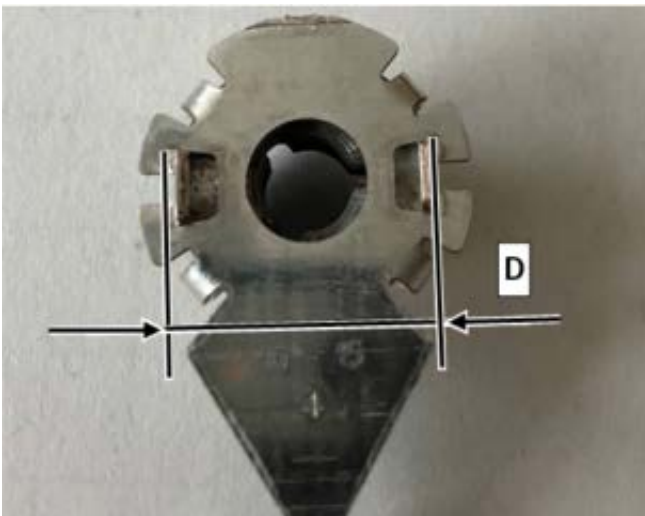

Figure 4
10. Measure outside dimension between anti-twist protection lugs (**D, figure 4**).
i Outside dimension between anti-twist protection lugs (**D, figure 4**) min. 13.6 mm.
- a. Anti-twist protection (**C, figure 3**) **straight** or **bent outwards**, i.e. outside dimension between anti-twist protection lugs (**D, figure 4**) **equal to or greater than 13.6 mm**: Perform operation step 11, then **end measure**.
- b. Anti-twist protection (**C, figure 3**) **bent inwards**, i.e. outside dimension between anti-twist protection lugs (**D, figure 4**) **less than 13.6 mm**: Create **PTSS case**.
**i** Only if anti-twist protection of cable lug is **bent inwards**, i.e. outside dimension between anti-twist protection lugs (**D, figure 4**) is **less than 13.6 mm**.